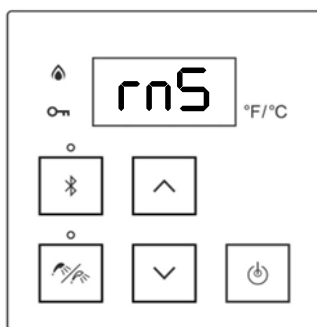

Figure 78
14. After 60 minutes flushing time completes, display shows “rnS” (rinsing) (Figure 78) and beeping sound is observed.